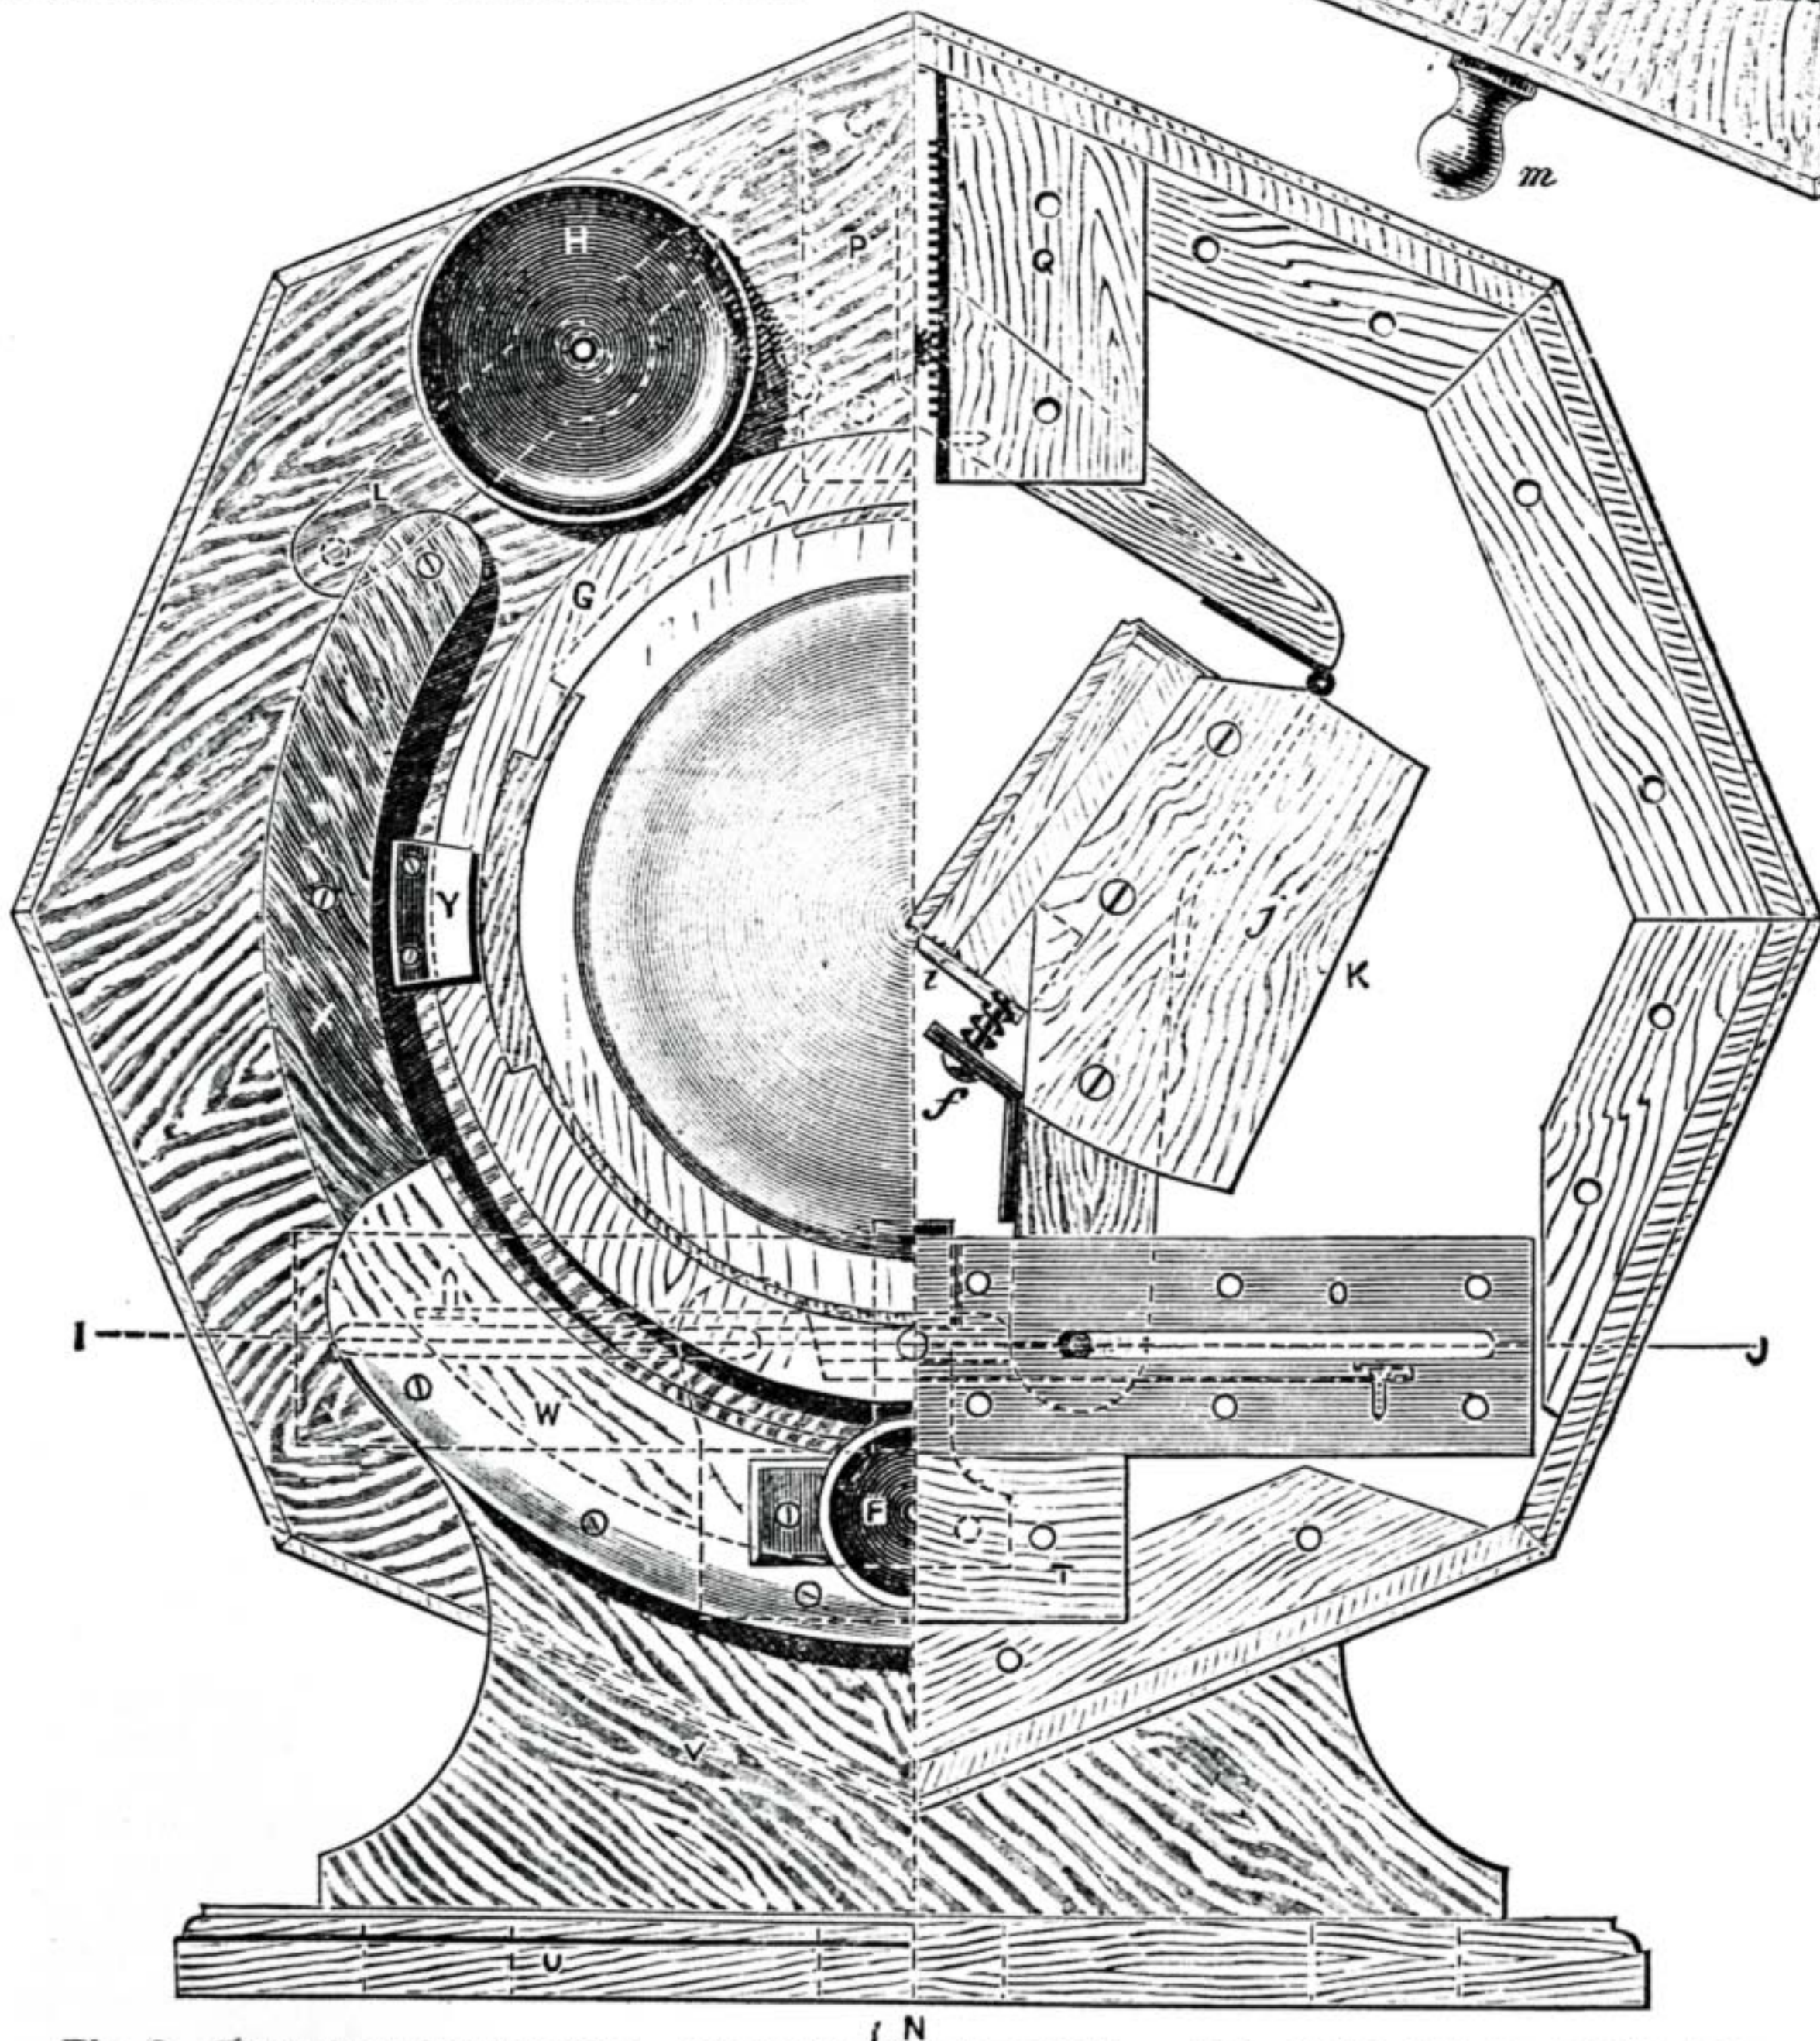
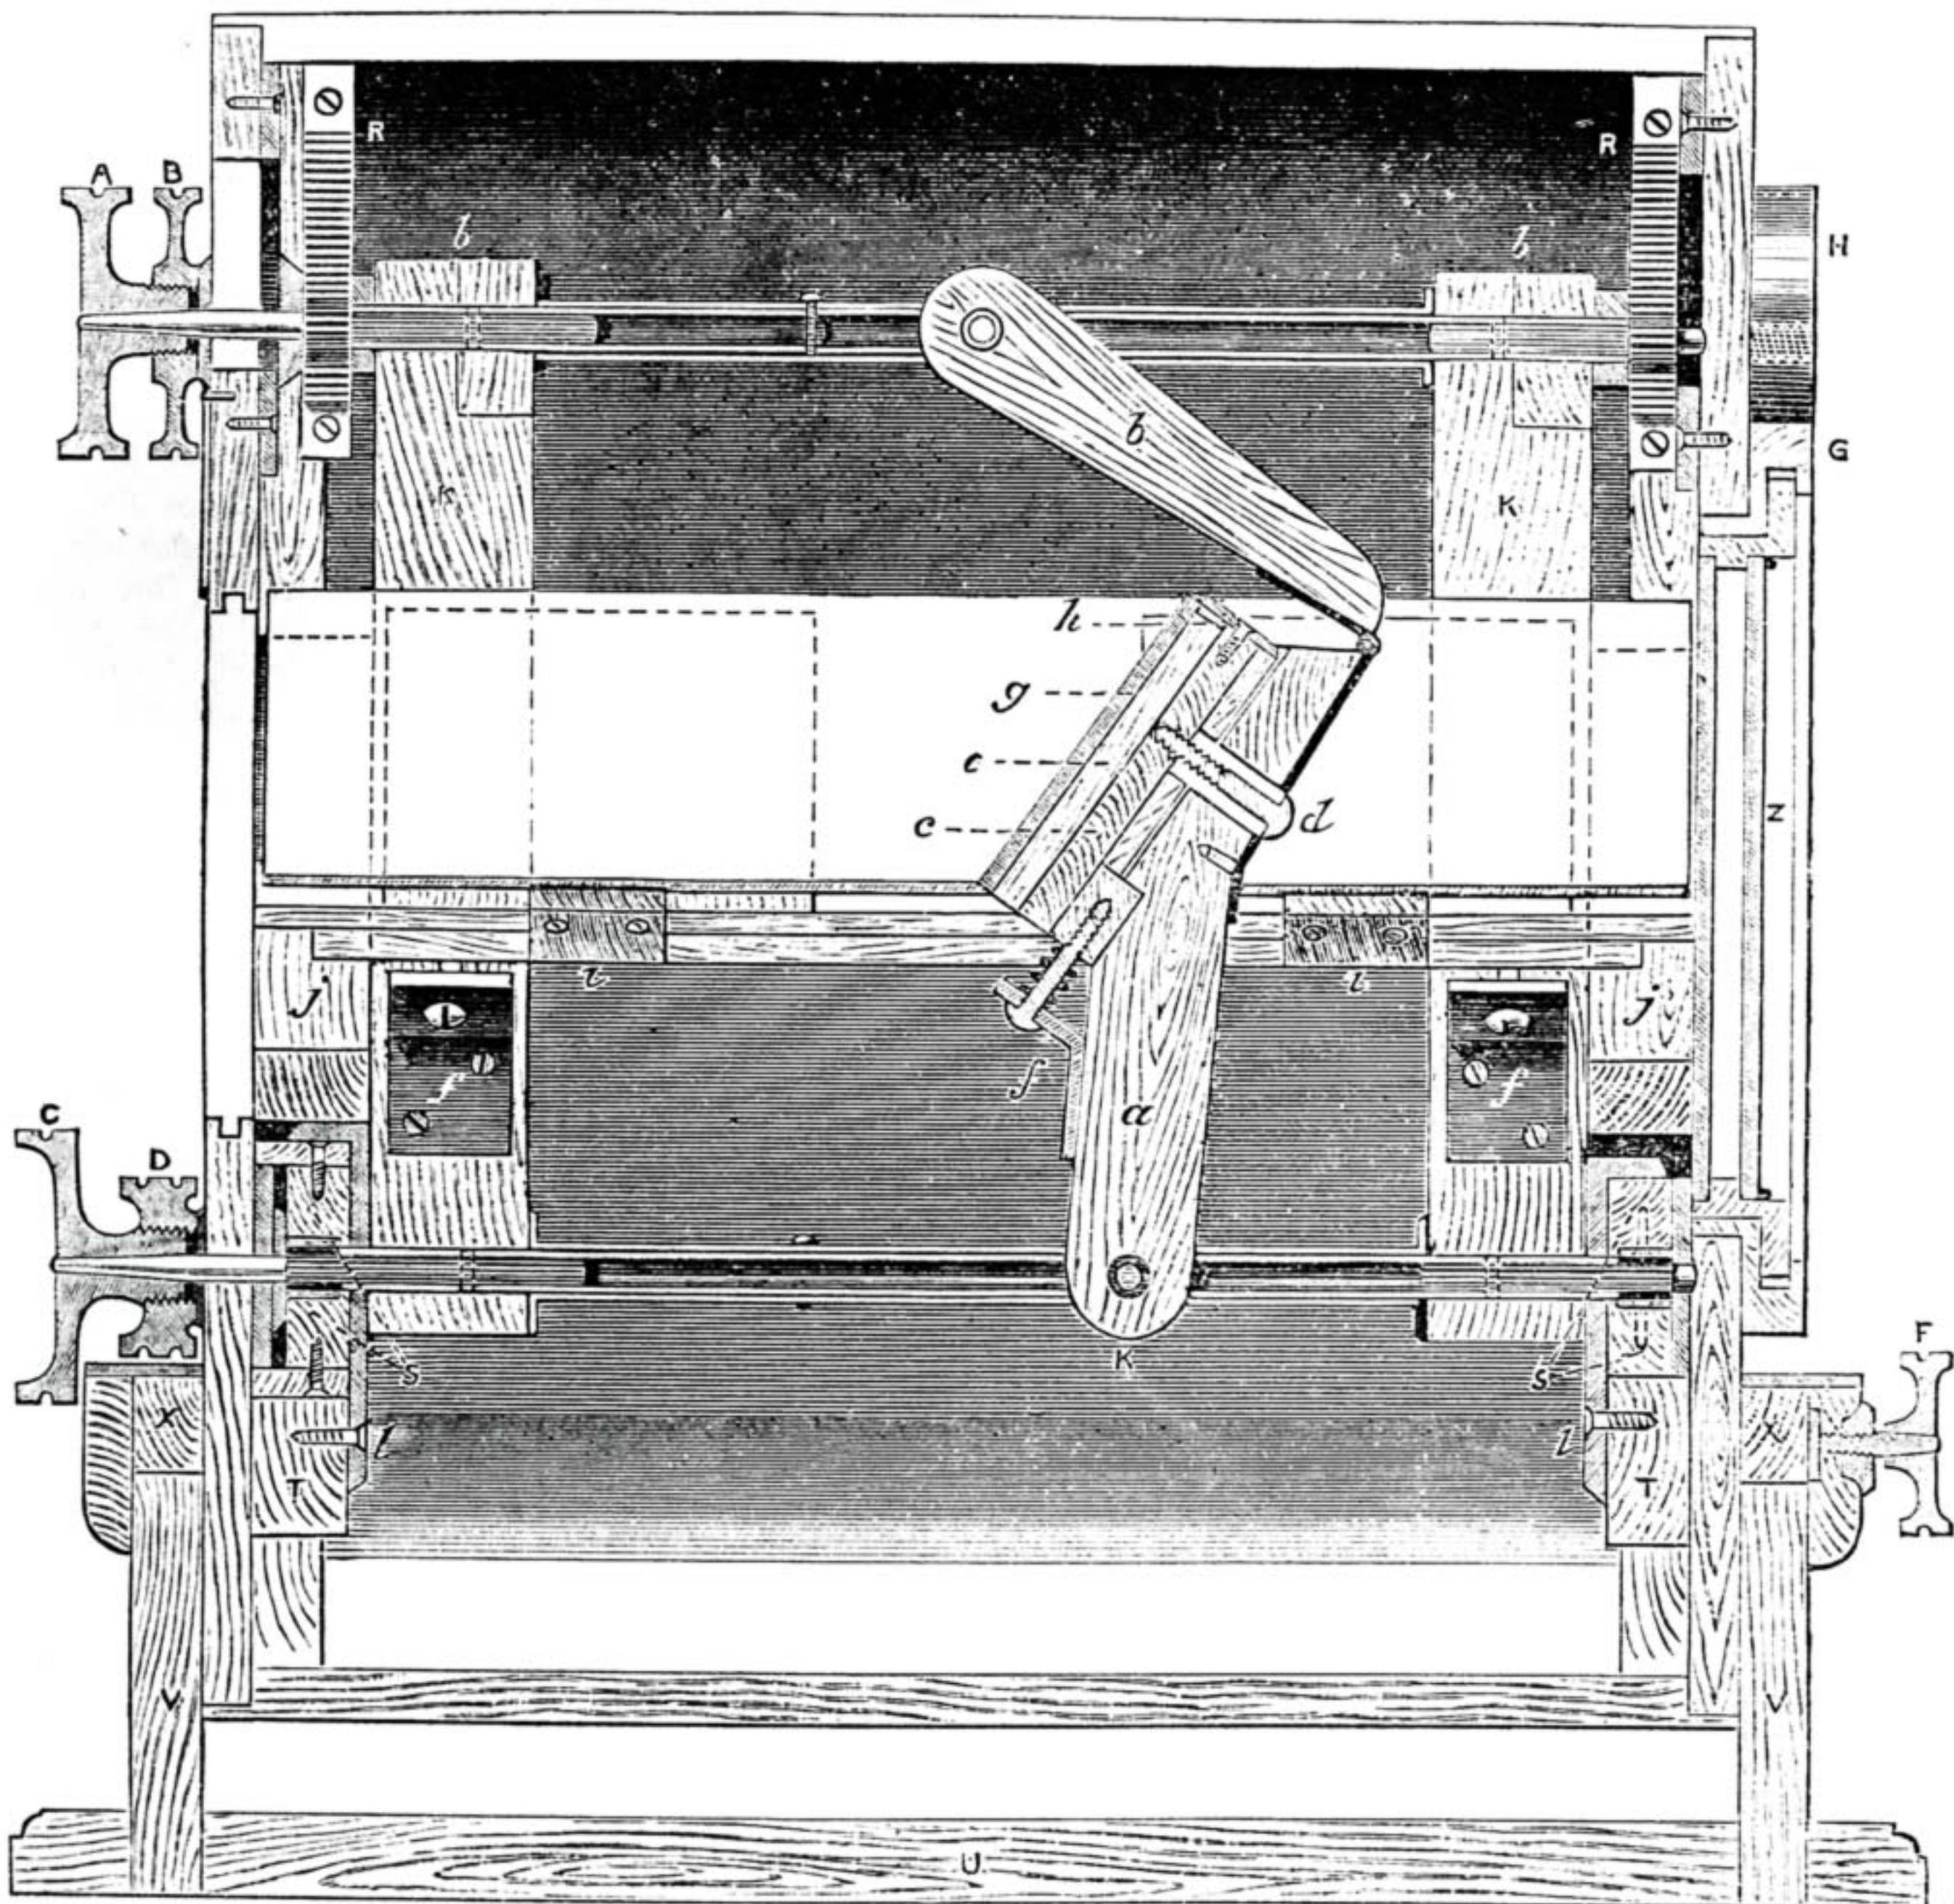

Fig. 2.—Elevation of Object End. One half of the End Plate and the Slotted Vertical Plate P is removed to show Interior. (Scale, half size.)
Fig. 5.—Sectional Elevation on Line M N in Fig. 2, showing also Portions of Interior (Mirrors Inclined) and Section through Centre of Arm. (Scale, half size.)
pair of milled heads (A and B, Fig. 5) at the back of the instrument, which actuate a pair of pinions sliding in vertical slots, and working in racks attached at each end to the inside of the case. The mirrors recede from each other at their upper edges on turning the head (A) in the same direction as the hands of a clock move or clockwise, and approach each other when the head is turned contra clockwise. One of the reflectors is shown at the extreme limiting angle in Fig. 2. In order to produce annular or arched and rectilinear pictures, the reflectors are moved apart at their lower edges by a motion the reverse of the preceding, and of which it is quite independent, viz., by turning a milled head (C, Fig. 5), which is secured to a pinion rotating in bearings at each end, and moving in opposite directions a pair of racks attached at their ends to the arms (K), which support the reflectors. A second milled head (D) acts as a clamp. The reflectors can thus be separated to a distance of 2 inches, and parallel to each other, as shown in Fig. 1, any intermediate position, either oblique or parallel, being obtainable on turning the heads A or C as required. The whole instrument is capable of being rotated through an arc of about 170 degrees, the rings shown at X (Figs. 1, 2, and 5), secured to each end of the instrument, being supported by the uprights (V), the upper ends of which are hollowed to fit the rings, thus
forming a bearing, and the necessary leverage is provided by the handle seen at *m* (Fig. 1). By means of a milled head at *F* (Fig. 5), this motion can also be arrested to admit of the picture being copied. The object box is enclosed in a carrier (*G*), which allows of continuous, clockwise rotation, through the medium of a small rubber-covered disc of wood (*H*, Figs. 2 and 5), actuated by a milled head, seen at *E* (Fig. 1), the tension of a coil spring applied to the end of a lever (*L*, Fig. 2) being sufficient, on turning the disc, to transmit motion to the carrier. In addition to the advantages already enumerated, other accessories, rendering the instrument still more complete, will be described and figured in due course. Meanwhile, sufficient explanation has been given to make the reader conversant with the motions of the several parts before us, and we may now turn our attention to the various details involved in its construction.
Before attacking the woodwork generally, there are a few trifling patterns of the brasswork which it will be well to prepare, so that the castings (which should be thoroughly sound) may be ready to hand when wanted. They comprise patterns for the milled heads shown in Figs. 1 and 5. First turn a pattern for c (Fig. 5); as this will be moulded shank downwards, the latter must be tapered slightly from the point upwards, omitting the hollow shown in the diagram, as also the groove on the edge, which must be tapered in the same direction as the shank. The same pattern will serve for the heads A and E; $\frac{1}{16}$ in. all over the surface must be allowed for turning. One pattern
We will commence operations by turning the carrier for the object box G (Fig. 5). For this we require a piece of specially sound, close-grained mahogany, $5\frac{1}{2}$ in. square and $\frac{3}{4}$ in. thick. At $\frac{5}{8}$ in. from the edge, set off four holes, one at each corner; bore these to pass a $\frac{1}{4}$ -in. screw, and countersink them, so that the heads shall not be less than $\frac{3}{8}$ in. below the surface; if necessary, level the other side, and fix to the true face of a hard wood chuck. Having trued up the face, find the centre as it spins, and scribe a circle with the compasses, $4\frac{1}{4}$ in. diameter, which is the size of the opening in the object end of the case; outside this circle turn down to a shoulder, barely $\frac{5}{16}$ in. deep, so that when in position it may not project beyond the edge of the opening into the interior. Scribe a line $\frac{1}{2}$ in. beyond the shoulder, and remove it from the chuck, replacing it with a piece of $\frac{3}{8}$ -in. deal, 7 in. square; true up the face, and bore to fit the part already turned on the carrier. Cut off the superfluous corners of the latter, and if not sufficiently tight to drive by friction, fix with a couple of screws an inch or so from the centre.
opening at each side, as shown in Fig. 2, and carefully remove a portion of the outer edge of the groove with a dovetail saw and gouge, so as to admit a similar pair of projections on the object boxes, forming what is known as a bayonet joint. Each end of the case is formed of a piece of mahogany, which, for convenience' sake, we will distinguish by the term "plate." These plates measure $9\frac{1}{2}$ in. across the corners, and $8\frac{1}{8}$ in. across the flats. The back plate at the eye end is $9\frac{1}{2}$ in. square, and $\frac{1}{16}$ in. thick to commence with; one face is dressed with a trying plane until it will lie without flexure close to the true face of a wood chuck, on which it is to be mounted by a screw at each corner. To ensure the plate being left of the same thickness throughout, a straightedge must be diligently used to test the surface until it is quite level; then reverse it on the chuck, and reduce it with equal care on this side also to a thickness of $\frac{5}{16}$ in.